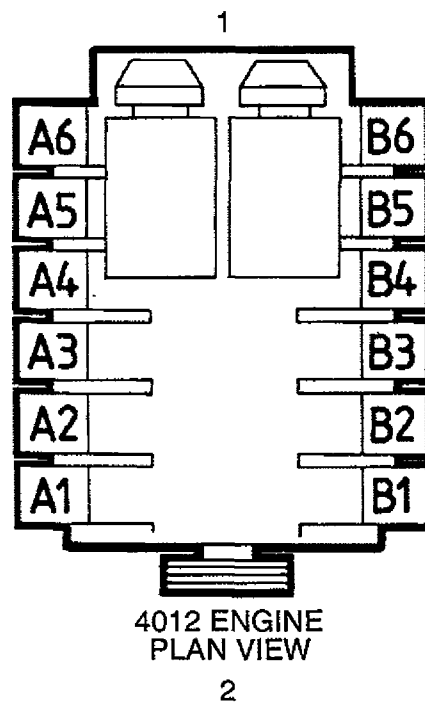

Fig. 64P
e.g. To adjust the valves and bridge pieces on No. A1 cylinder, set No. A6 cylinder valves rocking (for 4012 engine see **Fig. 64P**; the 16 cylinder engine never had the early rockers).
(**Fig. 64P**)